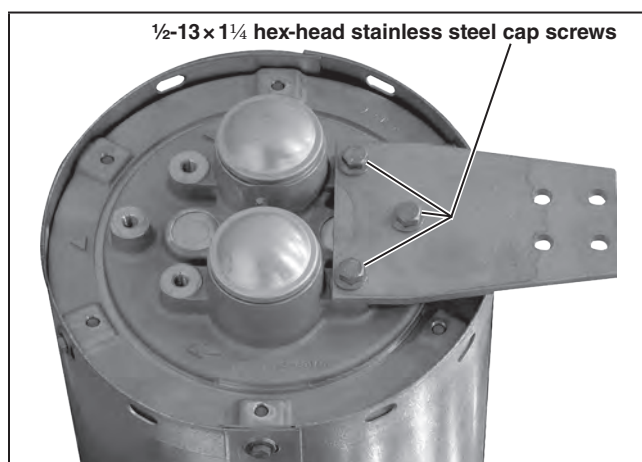

Figure 19. Attach the terminal pad
- (c) Attach the upper terminal pad using three ½-13 × 1¼ hex-head stainless steel cap screws and Belleville washers. See Figure 19.